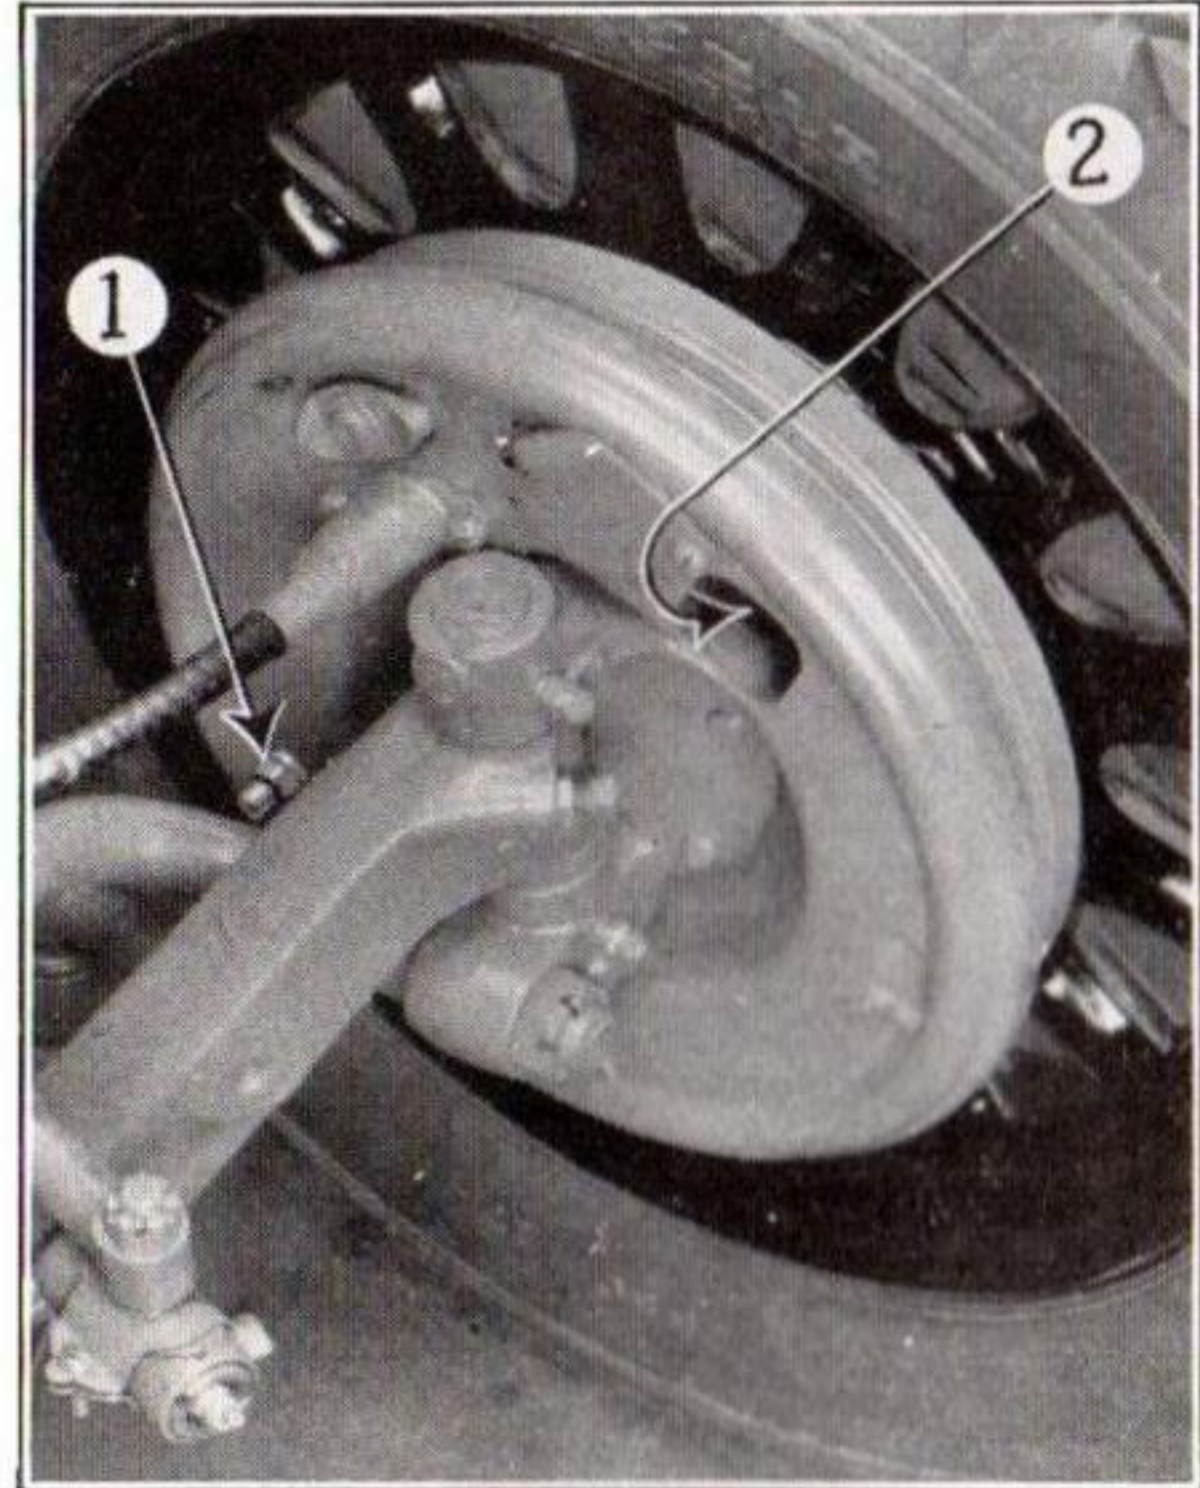

FIG. 4
(B) Loosen lock nut and turn eccentric (1, Fig. 4) until $.025''$ clearance is established between lining at drum next to eccentric. To measure turn drum until inspection hole is opposite eccentric and measure through inspection hole with a $.025''$ thickness gauge.
Using special pliers, working through cover plate on brake support plate, turn adjuster nut (2, Fig. 4) until heavy drag is evident when turning wheel by hand.